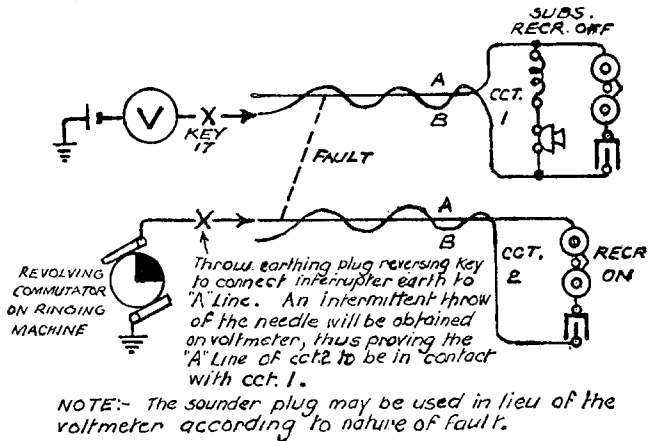

Fig. 21.—TEST FOR CONTACT BETWEEN ONE CIRCUIT AND ANOTHER (USING VOLTMETER AND INTERRUPTED EARTH PLUG).
**Contact Tests.** Voltmeter Tests for contacts on subscribers' circuits are generally made with the subscriber's receiver off the hook, the voltmeter and test battery being applied to one circuit whilst an interrupted earth is connected to the other circuit (see Fig. 21).